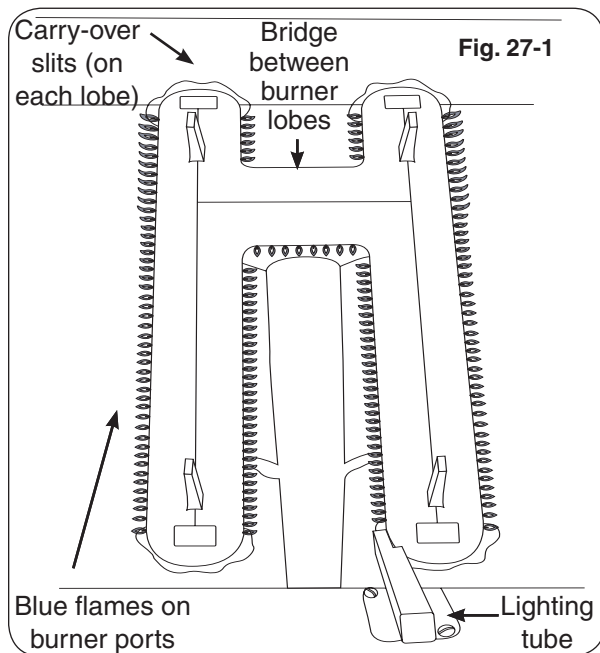

Fig. 27-1
Flames from a properly adjusted main burner with no wind or breeze present will appear fairly steady, consistent, and almost entirely blue. The extreme tips of the flames may be light yellow. If the tip of a flame were to turn orange, it should only do so briefly and then become blue or light yellow again. The flames will appear to burn while touching the burner ports (see Figure 27-1).
5. Repeat steps 1-4 until the flames appear to touch the burner ports, burning fairly steadily and almost entirely blue with occasional light-yellow tips (see Fig. 27-1).